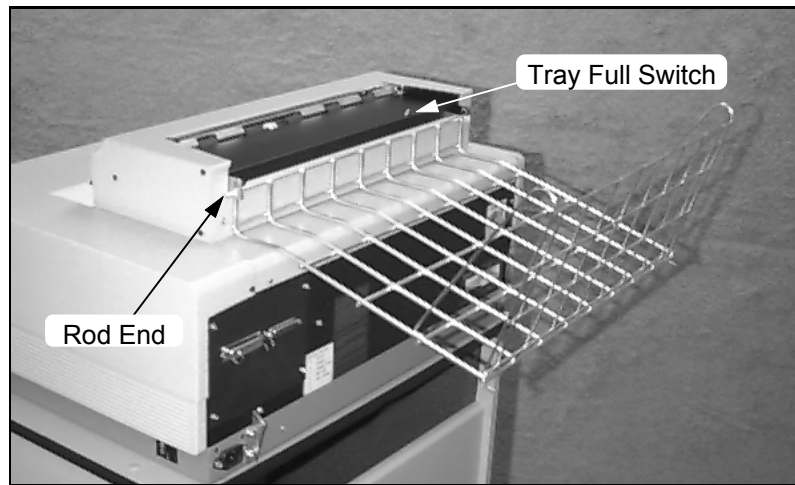

Figure 5
1. Install the bottom (larger) piece of the basket by placing the ends of the top rod into the hooks on the back of the FormsCutter as shown in Figure 5. This may be accomplished by holding the basket at approximately a 45° angle, inserting the rod ends into the hooks, and rotating the basket down until it rests on the top of the FormsCutter chassis.
The FormsCutter also provides a paper detection switch which is used to detect a tray full condition. The position of this switch is shown in Figure 5. This switch is checked after each cut to make sure that the previously cut form is clear of the exit path before another form is allowed to be printed. If paper is detected, the CUTTING indicator will flash as described above, the printer will go off line, and "Cutter Tray Full" will be displayed on the printer's control panel.